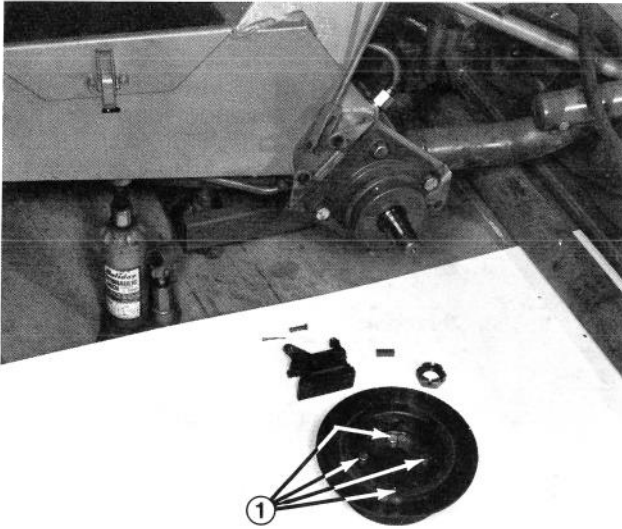

Figure 49
6. Remove the five (5) capscrews securing the brake disc from the hub (Fig. 49).